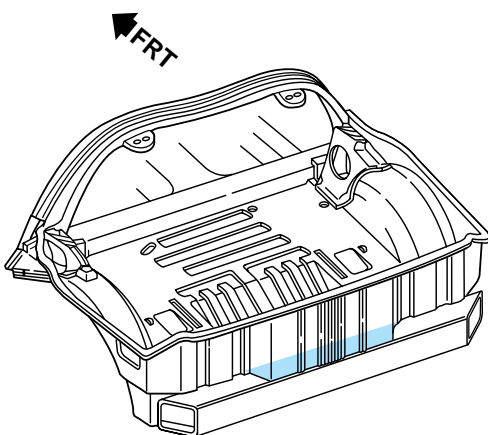

Fig. 3.73 — Bond Between Beam and Tub
- The rear impact bar is also bonded to the rear compartment panel, see Fig. 3.73. If necessary, apply heat, then pry apart to separate impact bar from rear panel. (Refer to Rear Compartment Panel Service Procedures.)
Notice: Top surface of impact bar (where it is to be bonded to the rear compartment panel), must not be top-coated, see Fig. 3.73. The bonding area must remain a 'primer only' surface